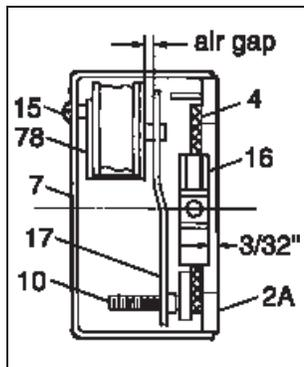

Figure 2
- Verify solenoid air gap is 5/32". Push in plunger and allow it to snap out. Check air gap. See Figure 2. If adjustment is required, see *Wear Adjustment*.
1. Normal friction disc wear will cause solenoid air gap to become large from the original set $5/32$ " air gap. An increase in stopping time and a slight reduction in torque will consequently occur. See Figure 2.
2. When the solenoid air gap increases to $1/4$ ", the brake must be adjusted. The gap is measured between the top surface of the lever (17) and the bottom surface of the coil assembly bracket (78).
3. To decrease air gap, turn the wear adjusting screw (10) clockwise until an air gap of $5/32$ " minimum is attained. To increase gap, turn screw counterclockwise.